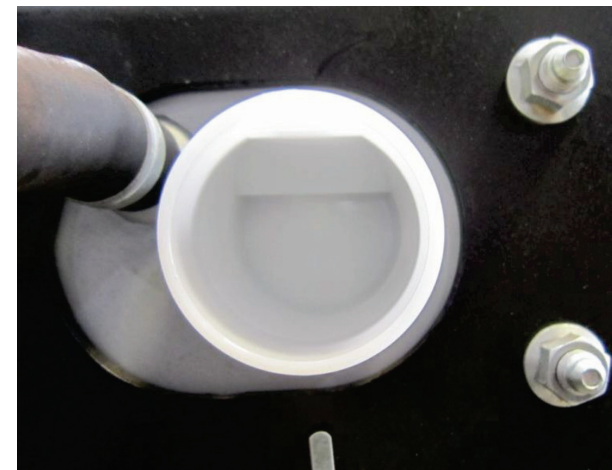

Figure 12.33.2
The fuel filler neck (5) must be installed with the proper orientation on the body. The neck should be installed with the roll-over valve pointing upward, with the bottom edge of the neck oriented parallel to the ground, plus 33 to minus 7 degrees. See **Figure 12.33.2** for the proper orientation.